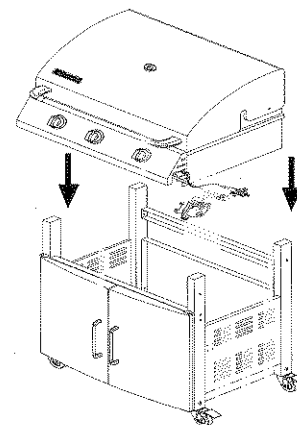

Figure 9
1. This step requires 2 people. With an assistant, lift and position grill head onto grill cart. (Fig.9)